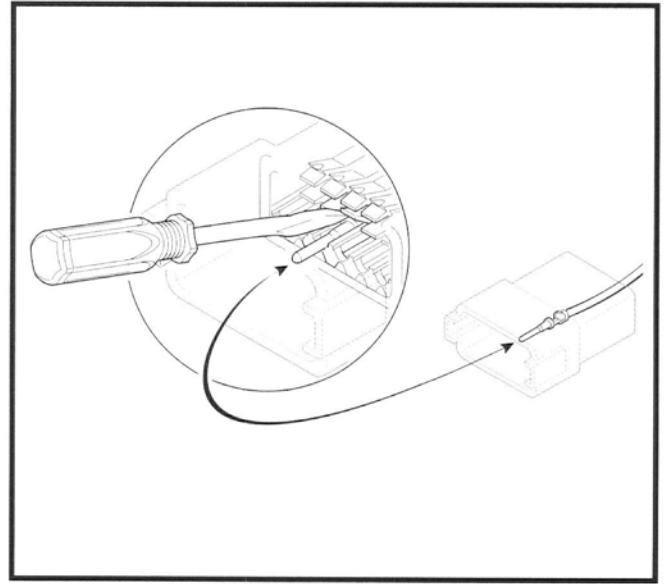

Figure 145. Depress Terminal Latches/Back Out Pins
2. Gently depress terminal latches inside socket housing and back out sockets through holes in rear wire seal. See Figure 145.